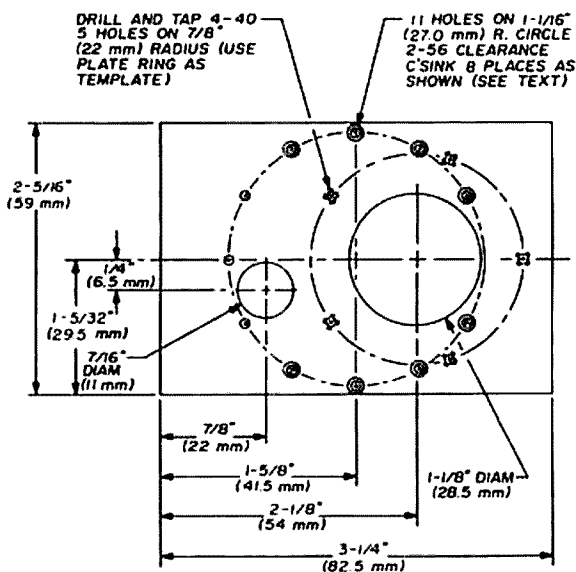
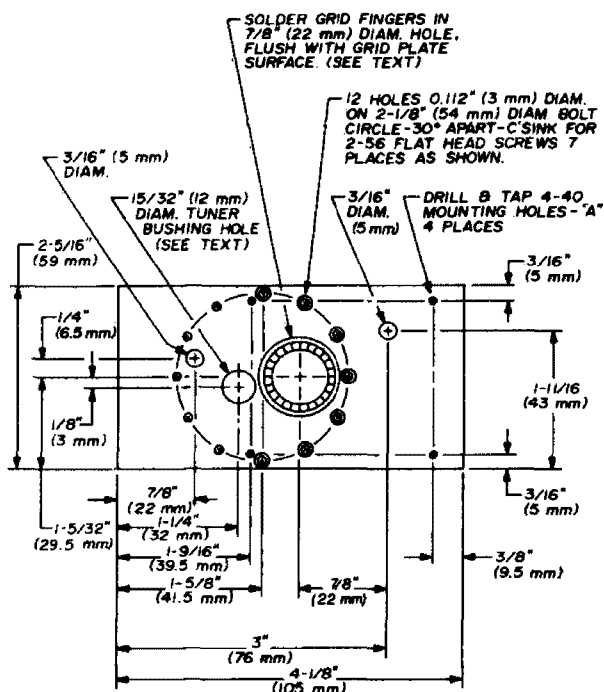
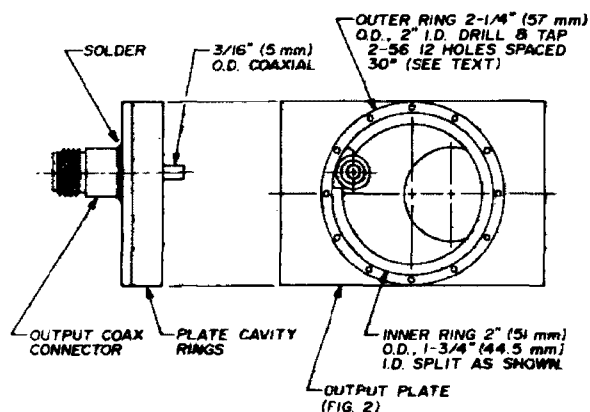
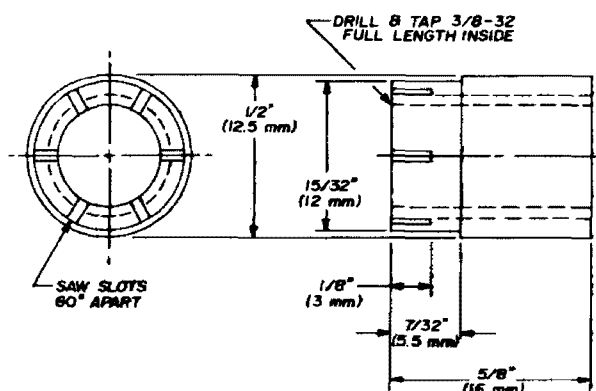

fig. 2. Dimensions for the output plate (outside face). Material is 0.093" (2.5mm) brass.
fig. 3. Grid partition for the 2304 amplifier. Material is 0.093" (2.5mm) brass.
fig. 4. Plate circuit ring assembly (inside view on right).
fig. 5. Tuner bushing (two required). Material is 1/2" (12.5mm) brass tube.
fig. 1. Plate ring for the 2304-MHz power amplifier. This ring is mounted on the output plate (fig. 2) with a 10 mil (0.25 mm) Teflon insulating sheet. Material is 1/8" (3mm) brass.
1) sandwiched between the output plate (fig. 2) and the grid partition (fig. 3). The plate ring with its finger stock is mounted on the outside of the output plate with a 10 mil (0.010 inch or 0.25mm) Teflon insulating sheet. The 11 holes on the output plate are drilled 30° apart on a 1-1/16-inch (27mm) radius circle. Eight of these holes are countersunk for flat-head 2-56 screws so that the plate ring will mount flush. The output plate is used, in turn, as a template for locating the tapped holes in the plate cavity. Fig. 4 shows the plate cavity rings mounted on the out-
The 15/32-inch (12mm) tuner bushing (fig. 3) should be drilled undersize, and reamed out to provide a force fit with the bushing. The tuner bushing (fig. 5), extends 1/8 inch (3mm) into the plate
If brass tubing with 3/8-32 threads on the inside is not available, tap 13/32-inch (10.5mm) ID brass tubing to a depth of 5/16 inch (8mm) from each end as shown in fig. 5. Turn down the shoulder on one end by using your hand drill as a lathe. One of the tuning pistons can be used as a jig to hold the tuner bushing during this operation. The drill should be run at slow speed if a variable speed unit is available; otherwise, use a Variac to adjust the speed of the drill.